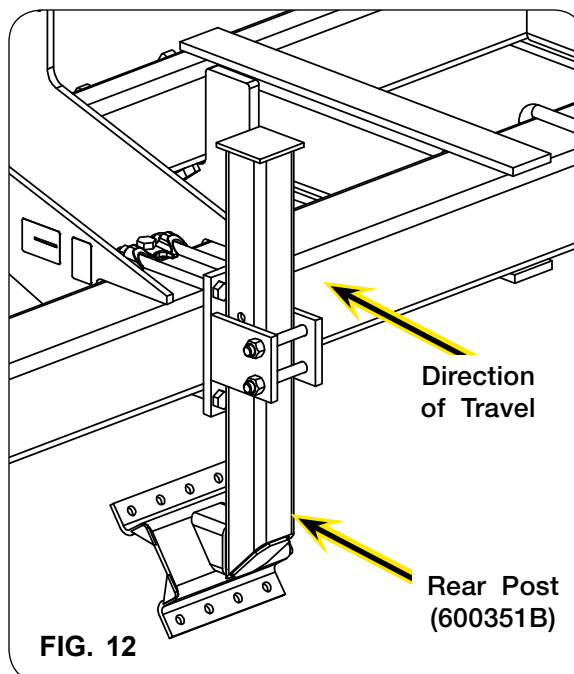

FIG. 12
20. Loosely install the rear posts to the rear of the flush clamp weldment(s) (60245) as shown in FIG. 12 with 5/8"-11UNC hardware.